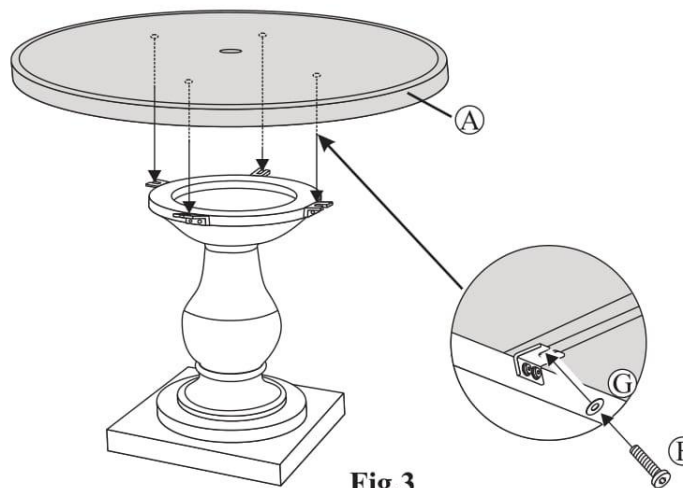

Fig.3
Step 4: With the help of another person, carefully place the table top onto the top base. Using four 1/4"x45 mm bolts and washers as shown in **Fig.3**, guide the bolts through the holes in top base and into the pre-drilled holes in the table top. **Do not over tighten .**